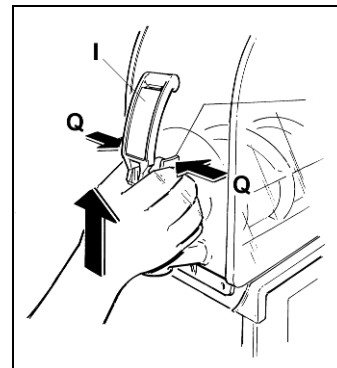

Fig. 19
- Simultaneously apply pressure to the two securing tabs (Q), and lift the dispensing tap (I) to pull it out of its fixed position (see figure 19).